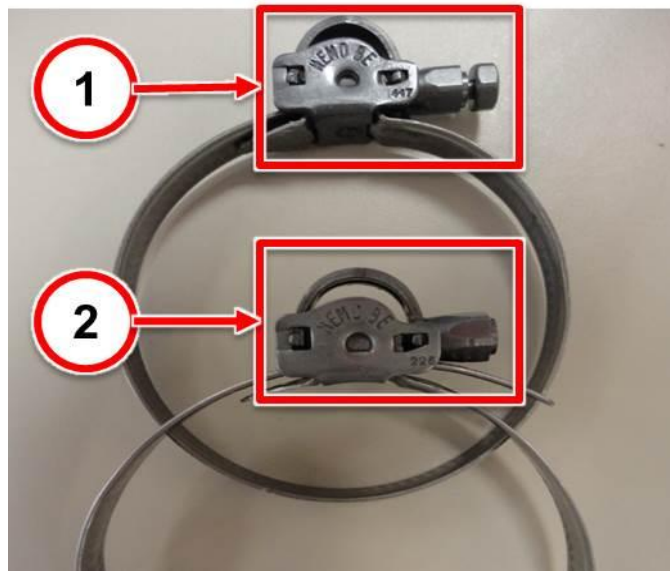

Fig. 3 Hose Clamp Torque Limiting Head
- 5. Using a 7mm shallow socket and swivel, tighten the new clamp until the torque limiting head breaks free. See (Fig. 3).